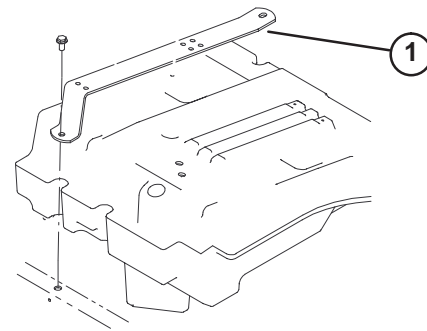

Figure 4
1. Remove capscrews securing seat mounting straps to traction unit frame (Fig. 4).
2. Secure seat mounting straps to seat adjusters with (4) flange nuts (standard seat) or (4) capscrews, flat washers and flange nuts (deluxe seat). Mounting fasteners supplied with seat kit loose parts.